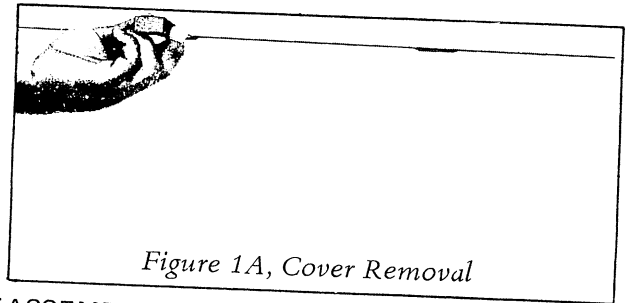

Figure 1A, Cover Removal
1. Push in on spring clips using a thin wooden wedge or a putty knife. Do not use anything thicker than a putty knife to prevent chipping the cover. Place the tool between the cabinet and the cover assembly as illustrated in *Figure 1A*.